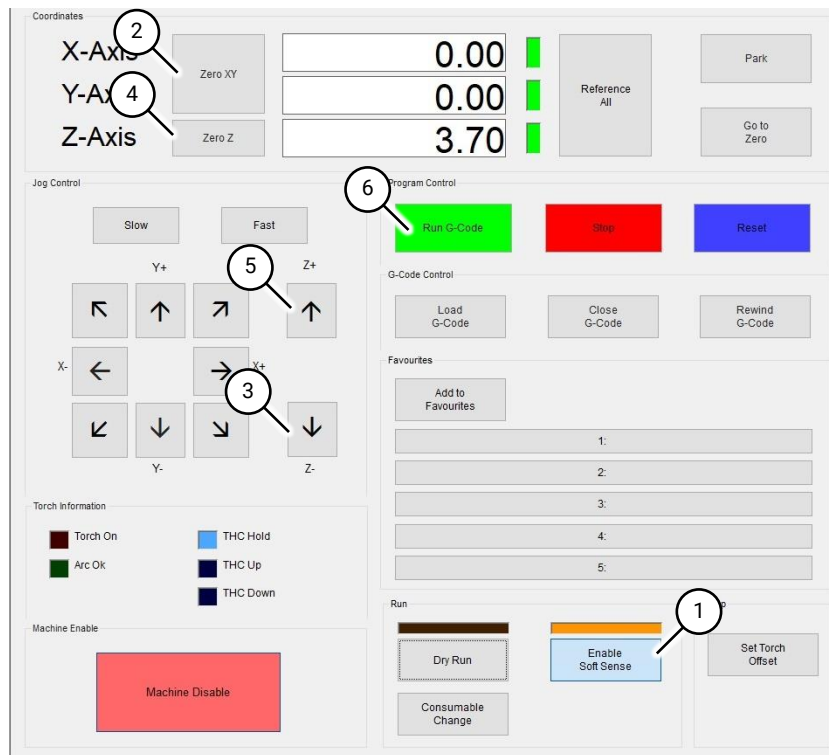

Fig 72 Cutting box section
3.1 Press the 'Disable Soft Sense' button (Fig 72 (1)).
- 3.2 Jog the torch to the start position and press the Zero XY button (Fig 72 (2)).
- 3.3 Jog the Z axis downwards on the surface of the box section using the Z- button (Fig 72 (3)) until the tip of the torch is touching the box section.
- 3.4 Press the Zero Z button (Fig 72 (4)). Select the consumable that fitted to the torch and then select 'Ok'. The Z Axis DRO will change to 0.00.
- 3.5 Jog the Z axis up slightly using the Z+ button (Fig 72 (5)) to give clearance for initial movements.
- 3.6 Press the Run G-Code button (Fig 72 (6)).